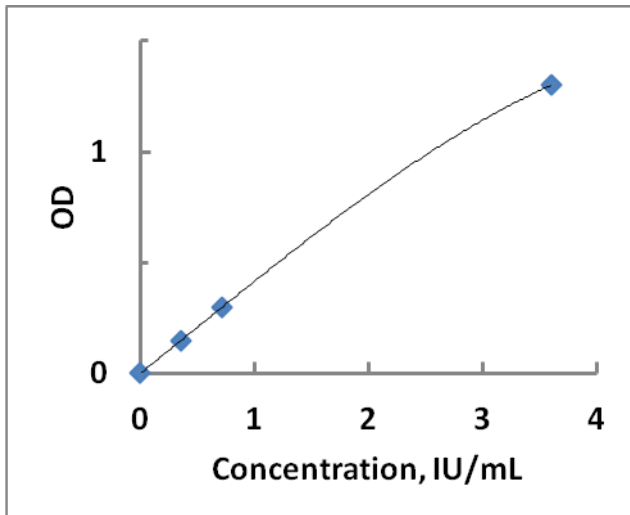
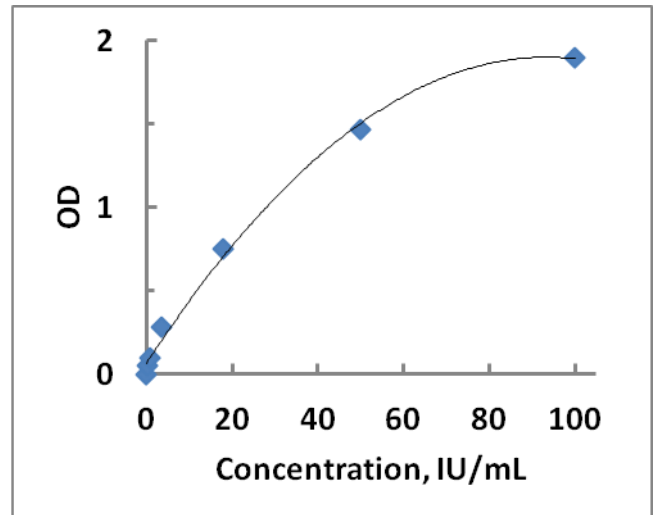

Figure 2A. Typical example of standard curve at 450 nm
Figure 2B. Typical example of standard curve at 405 nm
Plot two standard curve OD/concentration specific IgE in the calibrators (IU/mL). To plot the standard curve #1 (see Figure 2A), use the measurements results of calibrators 0...3 at a wavelength of 450 nm; to plot the standard curve #2 (see Figure 2B), use the measurements results of calibrators 0...6 at a wavelength of 405 nm.
- Use standard curve #1 (see Figure 2A) if sample OD (at 450 nm) is less or equal to the Cal 3;
- Use standard curve #2 (see Figure 2B) if sample OD (at 450 nm) is more than the Cal 3.